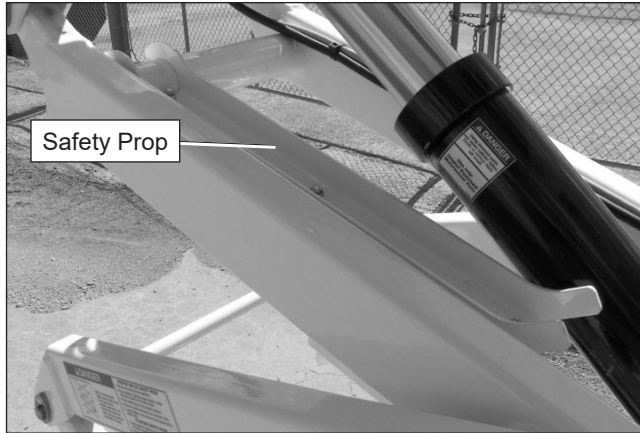

Figure 8.5 – Safety Prop in Stowed Position
2. Rotate the safety prop upward to the stowed position (refer to Figure 8.5).